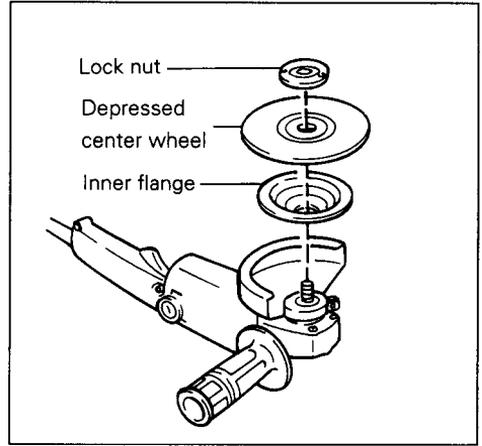

Fig. 1
1. Place the depressed center wheel flange on the spindle. (Fig. 1)
2. Fit the depressed center grinding wheel over the flange. (Fig. 1)
3. Screw the lock nut onto the spindle. (Fig. 1)